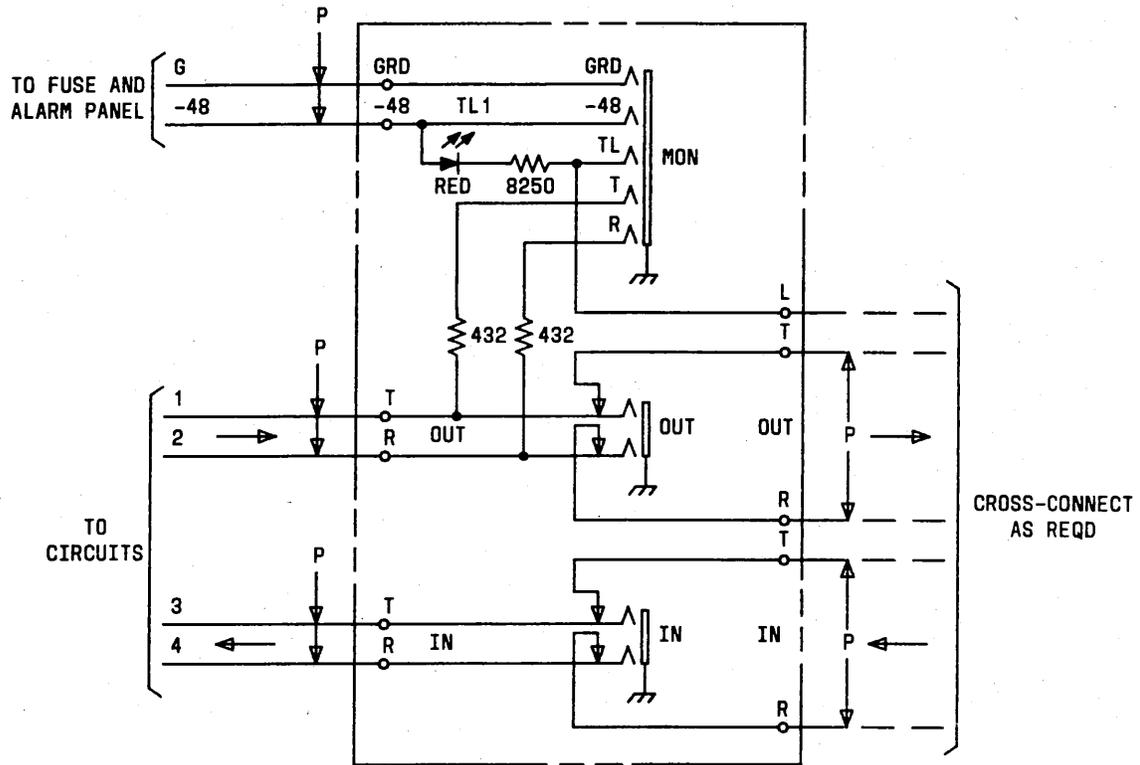

Fig. 9—800-Series DSX Standard Jack Circuit Schematic
4.02 The wiring schematic for the standard 800 series connecting block is shown in Figure 9. Cabling pins, labeled T&R IN and T&R OUT are located on the rear of the block for terminating leads from the digital equipment.